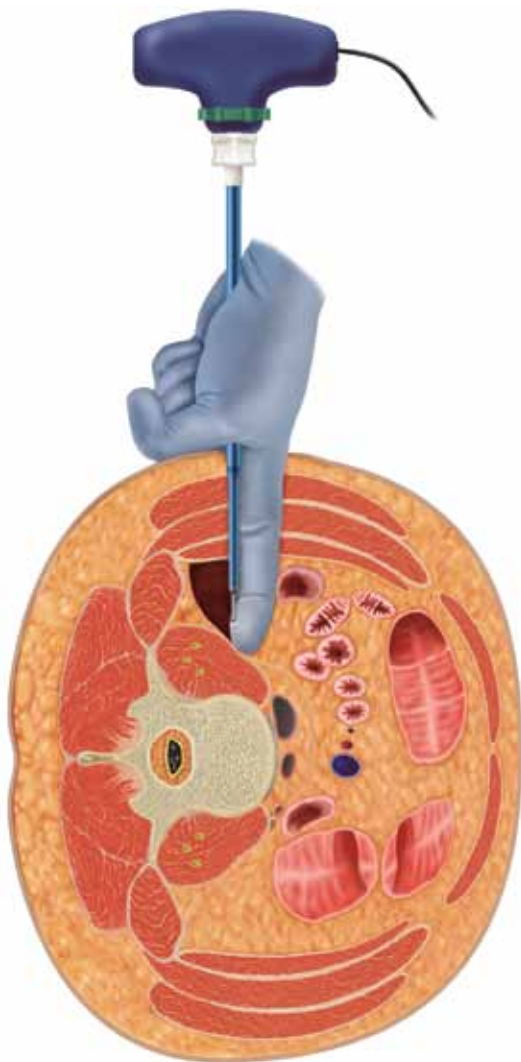

Figure 11
Step 1 After a safe retroperitoneal pathway to the psoas has been established, the NIM® X-PAK Probe is guided down to the psoas while using the finger to protect the peritoneal membrane. The NIM® X-PAK Probe includes an electrified handle stylet assembly and an insulated cannula that enables controlled electrification at the tip of the device (Figure 11).